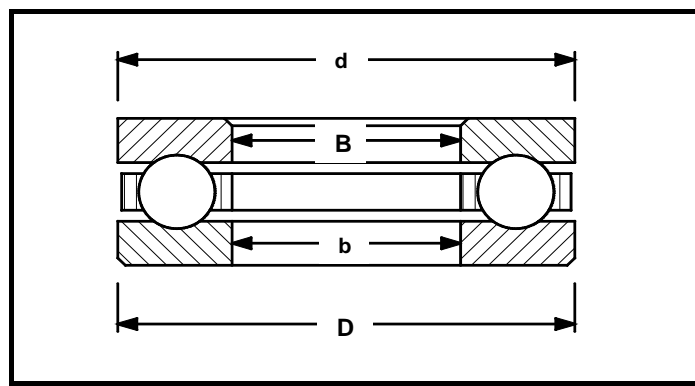

FIGURE 1.4
1.14 What is the function of the ball bearing shown in FIGURE 1.4 when in use on the clutch assembly of a motor vehicle?